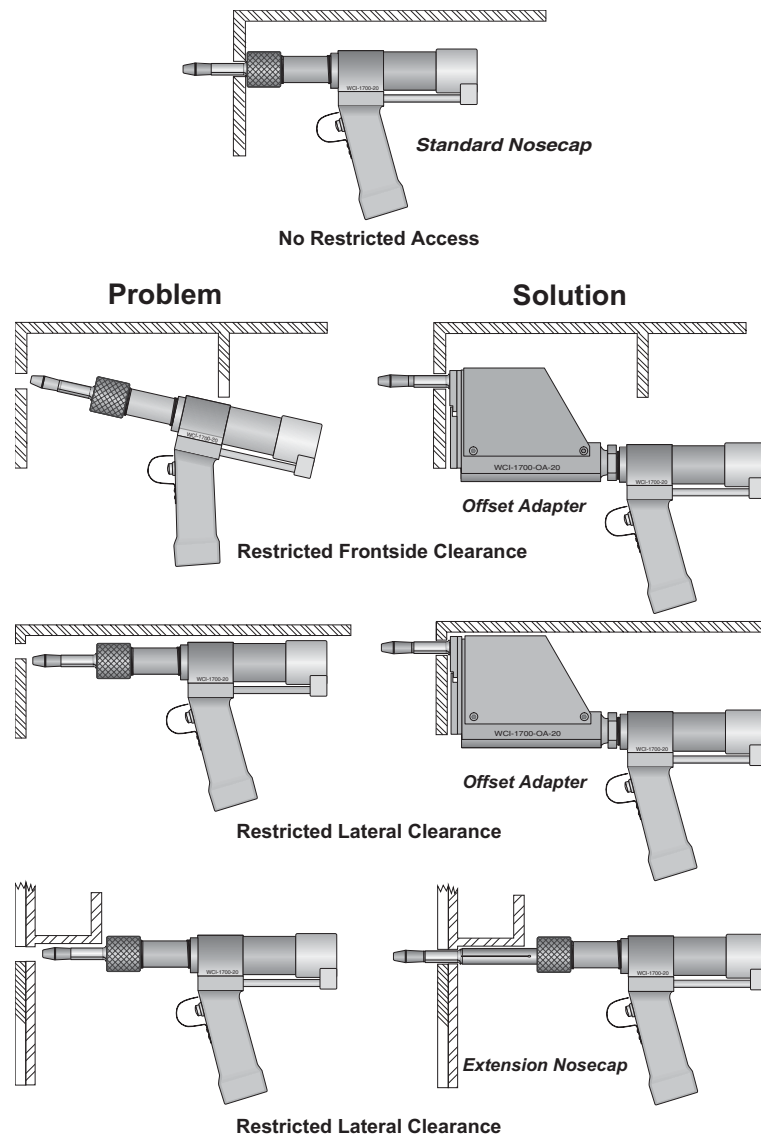

Figure 2-03 — Restricted Access Problems and Solutions
- 2.12 Access Restriction - A term used to refer to areas which contain obstructions that prevent the coldworking of holes utilizing standard tooling. These obstructions may be backside to the hole, frontside to the hole, or laterally to the hole. For these types of restrictions, utilize either an Hydraulic Offset or Puller Gun/Offset Adapter. Ref. Fig. 2-03.